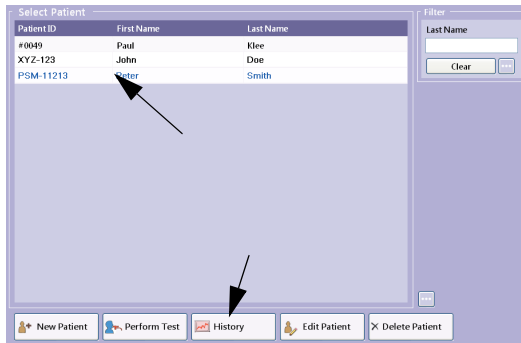

Fig. 3-35 Retrieving/printing stored tests
- Click the **History** button (Fig. 3-35).